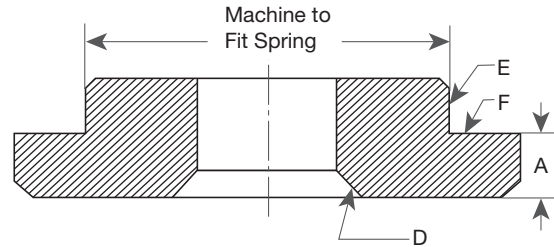

Figure 46: Lower Spring Washer F, G, and H Valves
1. Secure the eductor tube (40) in the base (1) by expanding or swaging into the hole provided. The upper end of the eductor tube should project above the guide surface of the base approximately .125" (3.18 mm) and the lower end should point directly and squarely toward the valve outlet. When the valve is assembled, the hole at the outer edge of the guide flange must fit loosely around the projection of the eductor tube.
2. For F, G and H orifice valves only, machine the new lower spring washer (17) (see Figure 46 and Table 23).
**Note:** When indicated at surfaces D and E (see Figure 46), run out at surface F is not to exceed .005" (.127 mm) full indicator reading.
**Note:** When indicated at surfaces D and E (see Figure 46), run out at surface F is not to exceed .005" (.13 mm) full indicator reading.